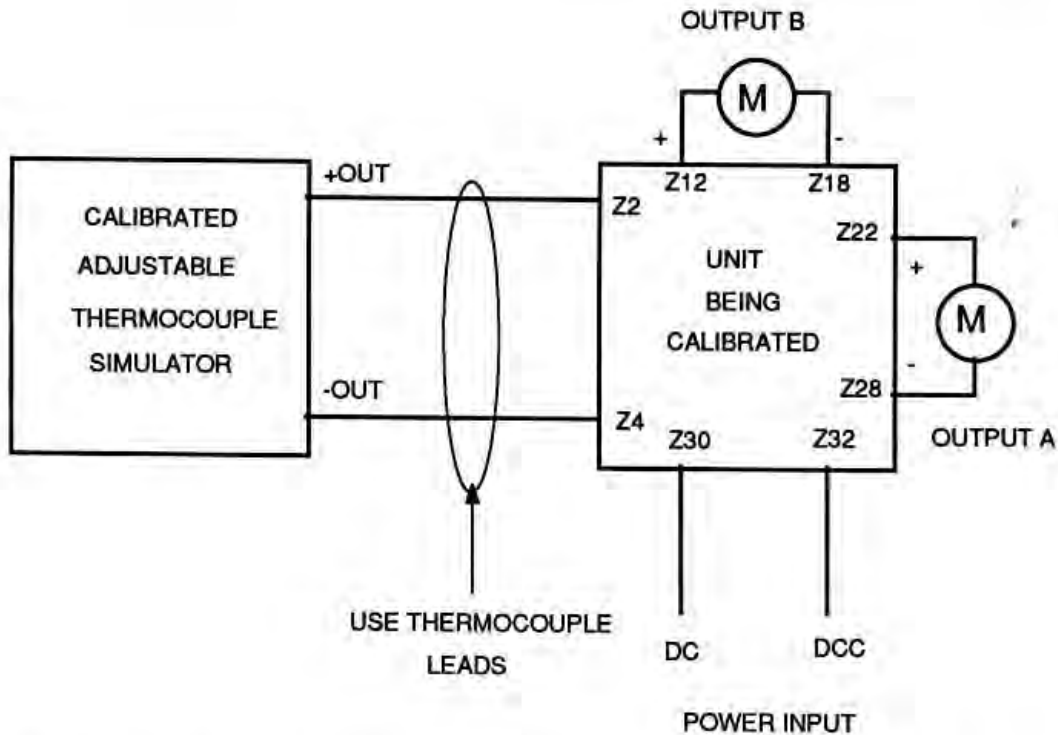

Figure 2. Test Equipment Setup for Calibration of the TCT-EU and TCT-EU Dual Output
Off-line calibration for all TCT-EU units requires the same test equipment setup regardless of the physical configurations or types of options used. Refer to the test equipment setup for unit calibration as shown in Figure 2 or 3.
1. Connect the unit and test equipment as shown in figure 2.